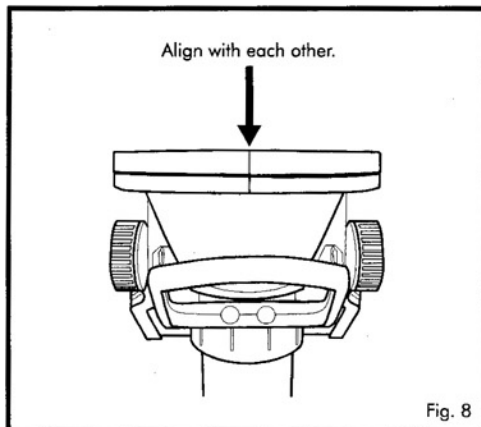

Fig. 8
- Place the front glass cover to the correct position with the Index provided. (Fig. 8)